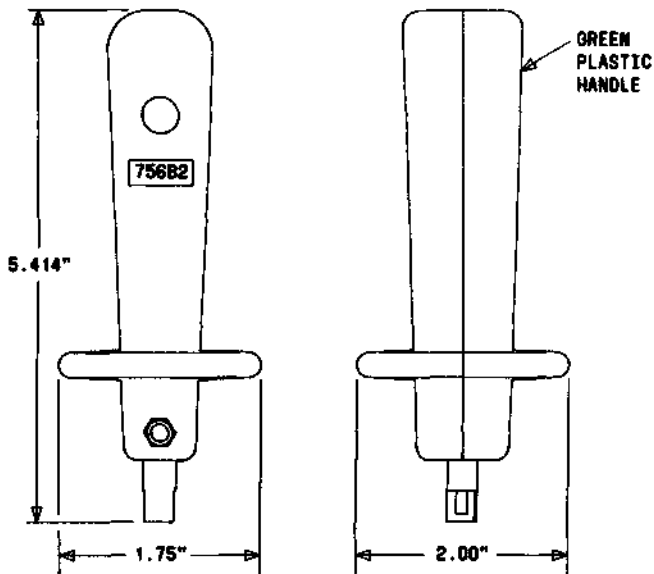

Fig. 3—756B2 Wire Inserter Tool
2.03 756B2: The 756B2 wire inserter tool (Fig. 3) is used for making connections on the 78-type connecting blocks. The 756B2 tool replaces the 756B tool.